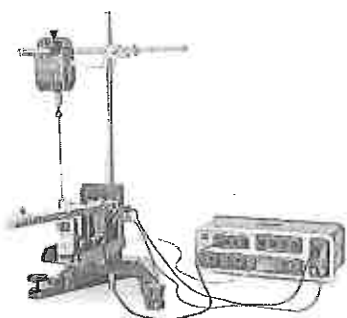

Figure 1: Complete Setup
12. Re-attach the assembly to the rotating arm with one plastic washer below the arm and one above. Then the silver nut, tightened down enough to prevent tipping, but the assembly must slide freely. Then the cable loop (see Figure 5). Then use the black nut to attach 5 g of mass above the loop. The cable loop should be below the 5 g mass. It is shown incorrectly in Figures 1&2.